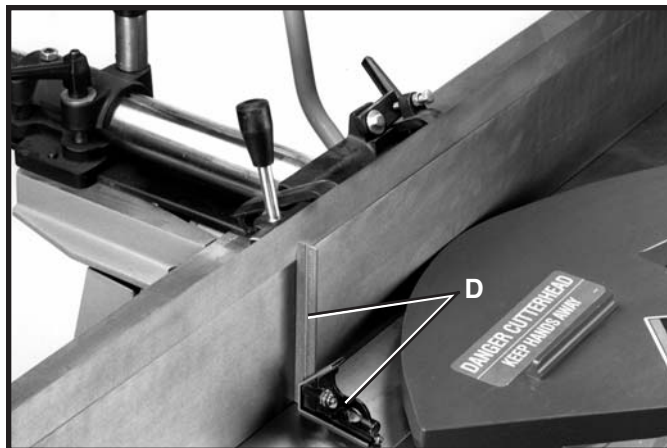

Fig. 23
2. Using a square (D) Fig. 23, check to see if the fence is at 90 degrees to the table as shown.